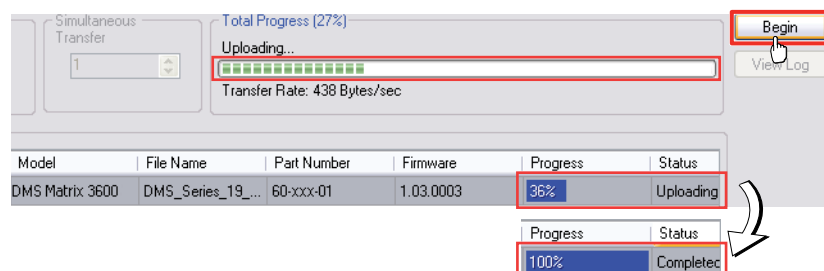

Figure 46. Firmware Loader Screen
13. In the Firmware Loader window, click **Begin** (see figure 46).